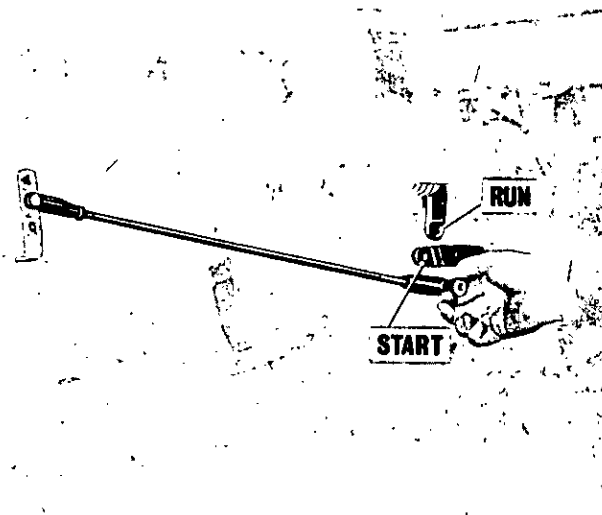

Fig. 4—Latching Governor Lever in starting position.
1. The unit is equipped with a manual control lever as shown in Fig. 4 . Latch the lever in the fixed starting position.
3. When fully warmed up, shift the manual speed control knob to the hole in the regulator arm (Fig. 4). This allows the UL-88 Speed and Pressure Regulator to take over. Connect air load to the compressor and open the service valve, allowing air demand to regulate output as required.